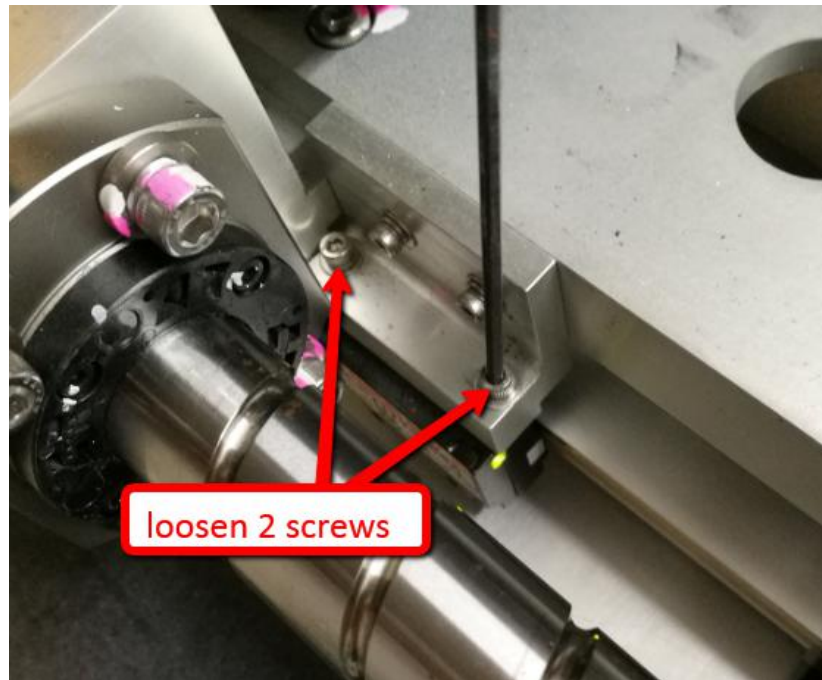

Figure 1 X-axis encoder removal
2. Push X-Axis stage to right hand side and loosen 2 screws as shown in Figure 1. Remove X-Axis encoder.